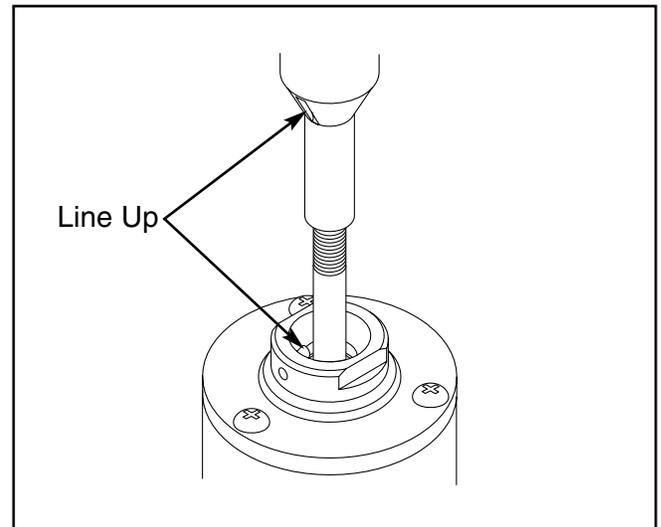

Figure 4. Inserting the spindle into place.
3. Place the spindle/drawbar into the spindle cartridge at the top of the table. Line up the keyway on the spindle with the locating pin at the top of the spindle cartridge. You will feel the spindle seat itself. **See Figure 4.**